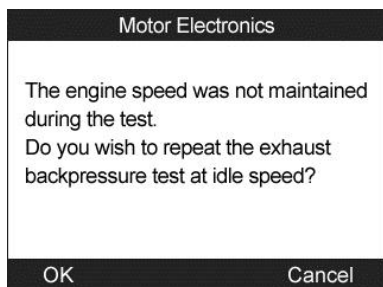

Figure 13-41
- If the engine is not running at idle speed, the tool will display a warning message. (Figure 13-41) Select **OK** to repeat the test or select **Cancel** to exit.